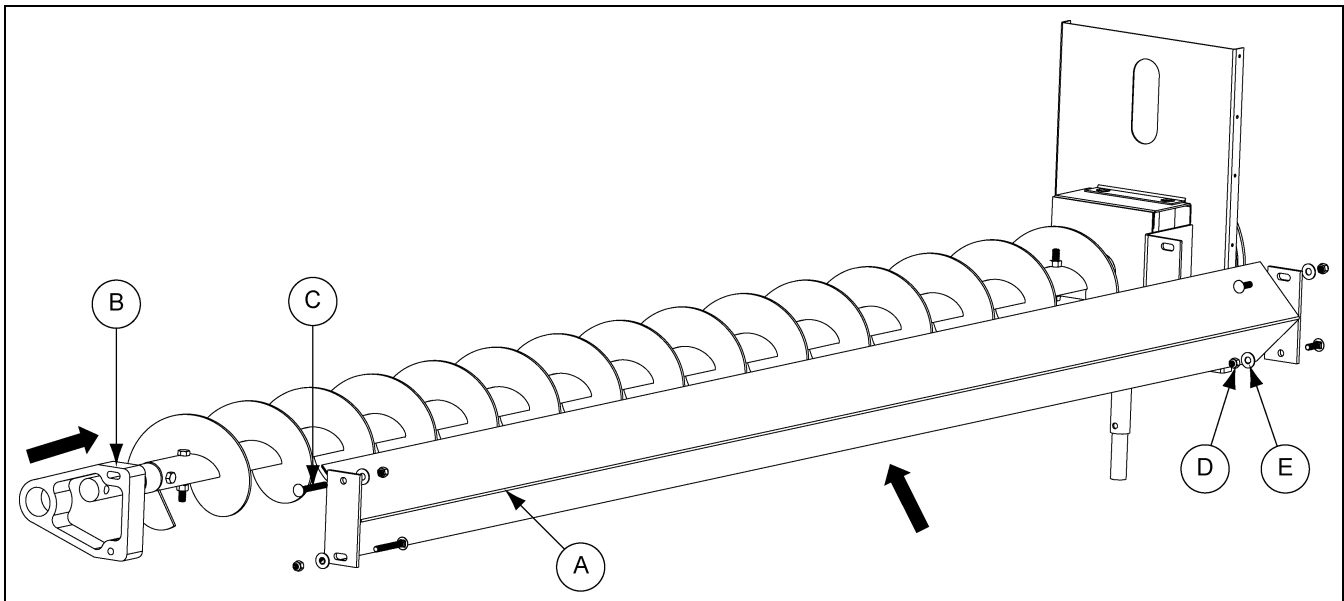

Figure 4AH
Step 10: Fit first rear shield section. (See Figure 4AH.)